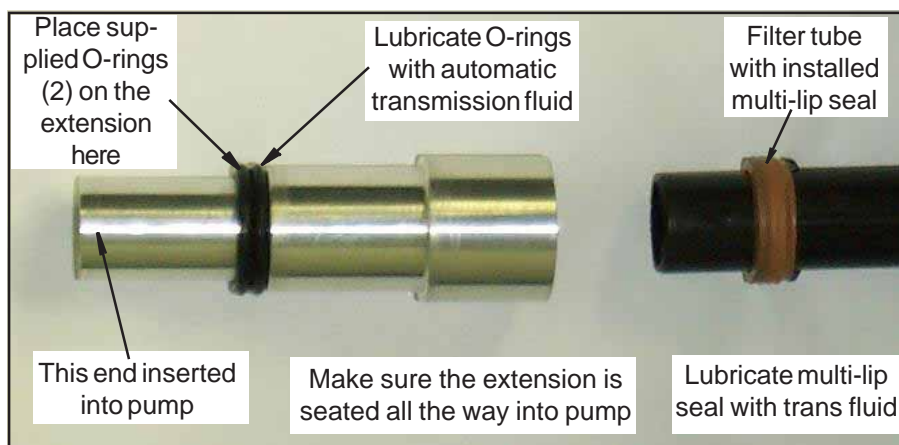

Figure 2
**STEP 4.** Install the supplied o-rings on the extension tube supplied with the pan. **See Figure 2.** This pan should be installed with a new filter. It is recommended to use the TH-700R4 filter with the pre-installed multi-lip seal to prevent air leaks. Lubricate the seal on the filter and the o-rings with transmission fluid. Place the extension tube on the new oil filter. Install the assembly into the oil pump bore.